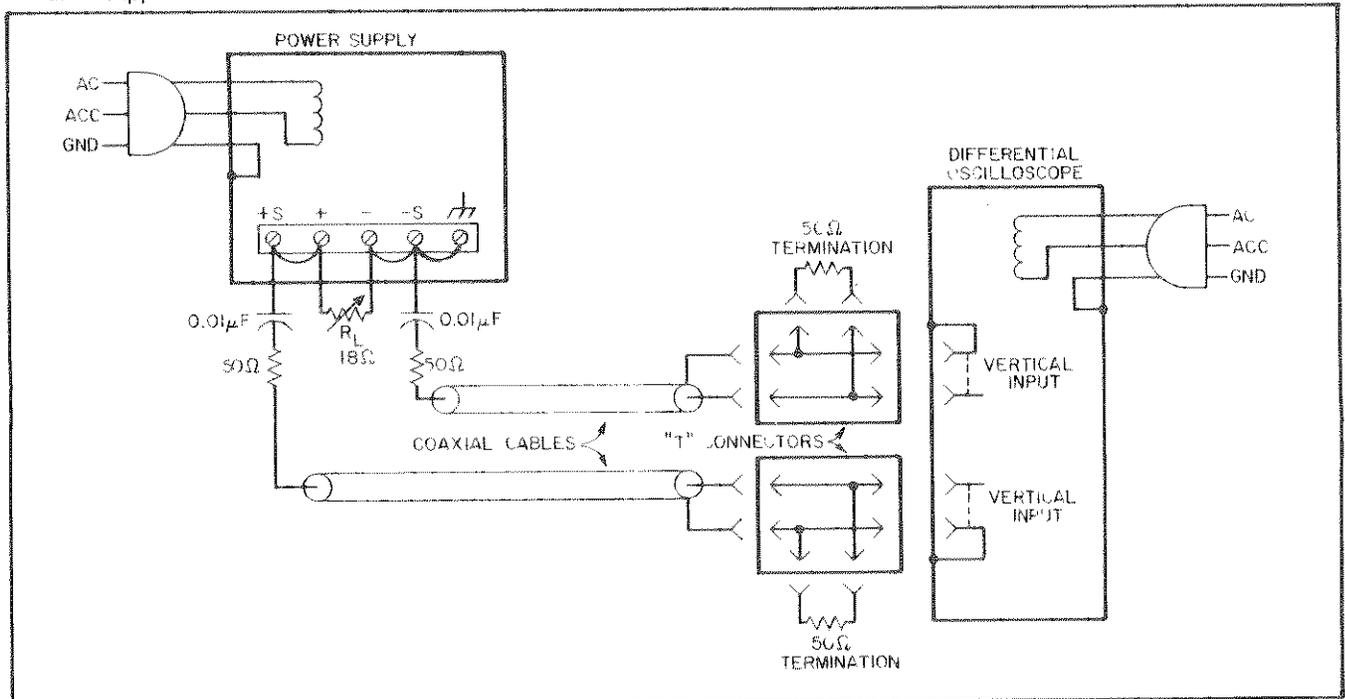

Figure 5-4. Constant-Voltage Noise Spike Measurement Setup
**5-28** Figure 5-4 shows the test setup used to measure noise spikes. Two coaxial cables must be used. Impedance-matching resistors must be included to eliminate standing waves and cable ringing, and capacitors must be connected to block dc. The length of the test leads outside the coaxial cable should be kept as short as possible. The blocking capacitor and impedance-matching resistor should be connected directly from the inner conductor of the cable to the power supply sensing terminal. Notice that the shields of the two coaxial cables are not connected to the power supply, because such a connection would provide a ground current path through the coaxial shield and result in an erroneous measurement.
- Connect the test setup shown in Figure 5-4.
5-30 The circuit of Figure 5-4 can also be used for the display of low-frequency ripple. Simply remove the four terminating resistors and the blocking capacitors and substitute a high-gain vertical plug-in for the wide-band plug-in required for spike measurements.